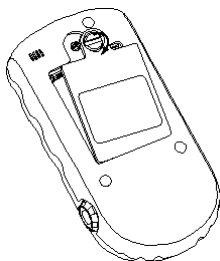

Figure 2
- 1) Open the rear panel with coin or an ordinary flat screwdriver, as shown in Figure 2.